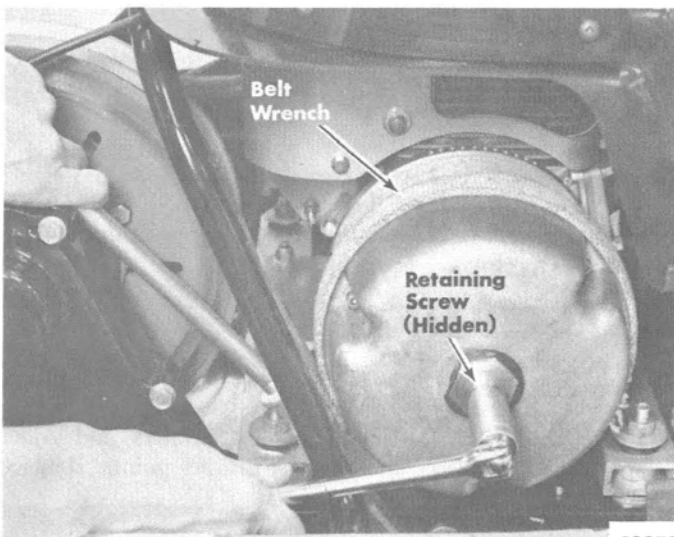

Figure 2. Removing Drive Clutch Retaining Bolt
2. Hold drive clutch with Belt Wrench (C-91-24937A1) and remove retaining bolt and lockwasher. (Figure 2)